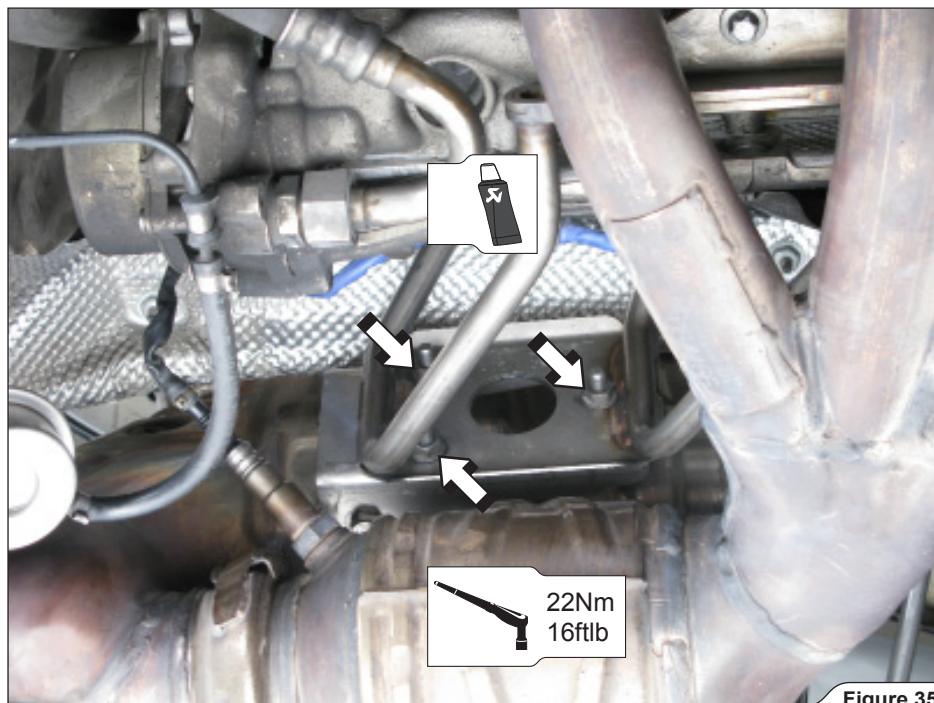

Figure 35
17. **For Slip-On and Sports Cup:** install both stock side mufflers using stock nuts. Tighten the nuts to a specified torque (**Figure 35**).